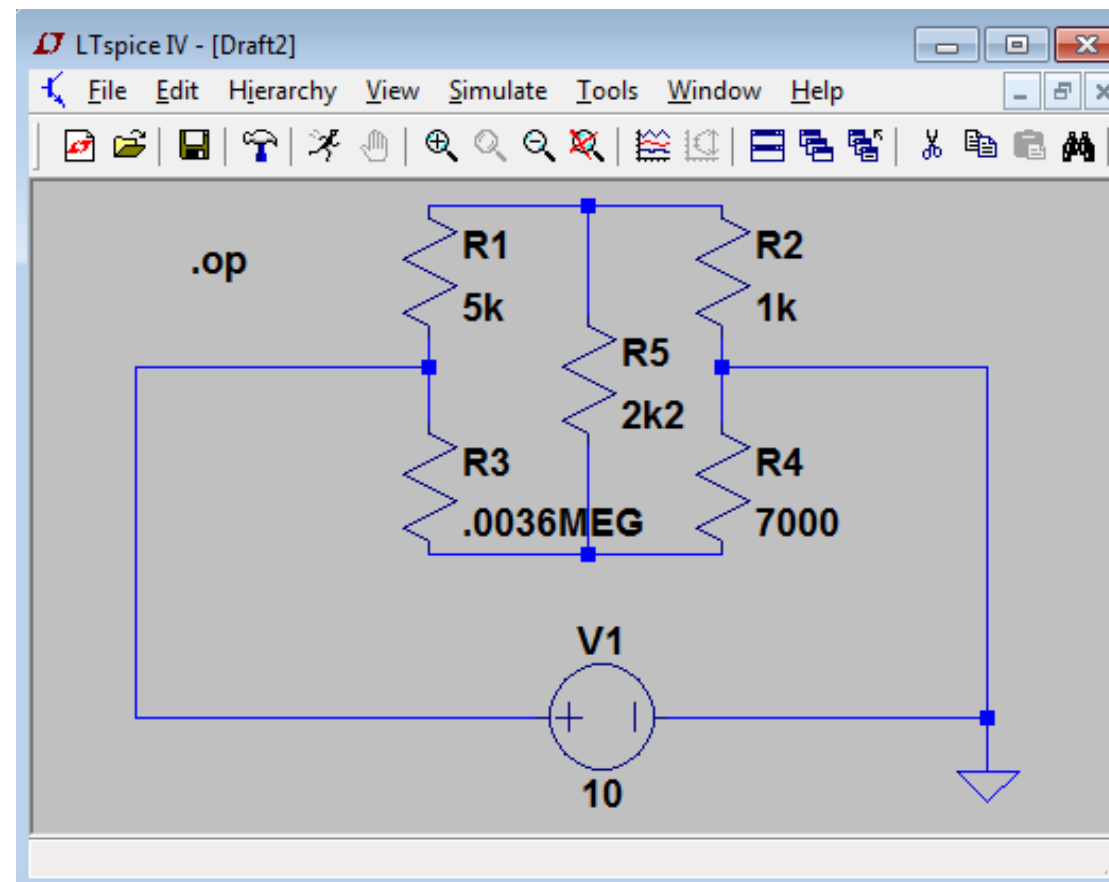

Figure 1: Resistor bridge circuit.
- Recreate the circuit shown in Fig. 1 by clicking on the various component icons in the LTSpice toolbar and then clicking to place various components on your schematic.
- The voltage source at the bottom of Fig. 1 can be found by clicking on the "Component" button (just to the left of the "Move" hand on the toolbar) and selecting the "voltage" component from the base symbol library (C:\Program Files (x86)\LTC\LTspiceIV\lib\sym\ on Windows).